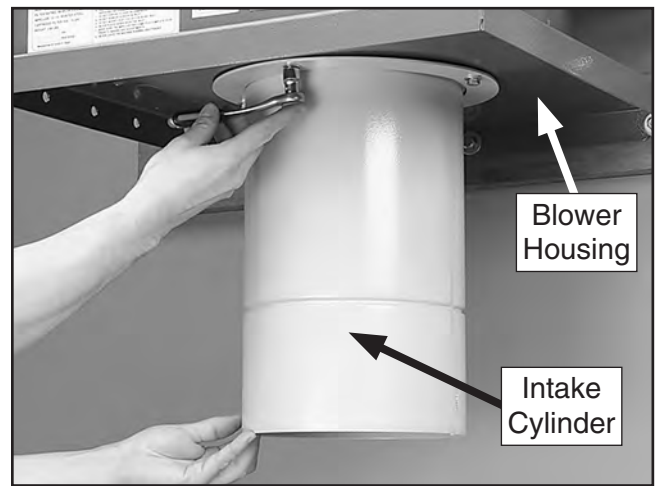

Figure 12. Attaching intake cylinder to the bottom of motor housing.
4. Attach the intake cylinder to the bottom of the housing, as shown in **Figure 12**, using (4) $\frac{5}{16}$ "-18 x $\frac{3}{4}$ " hex bolts and (4) $\frac{5}{16}$ " flat washers.